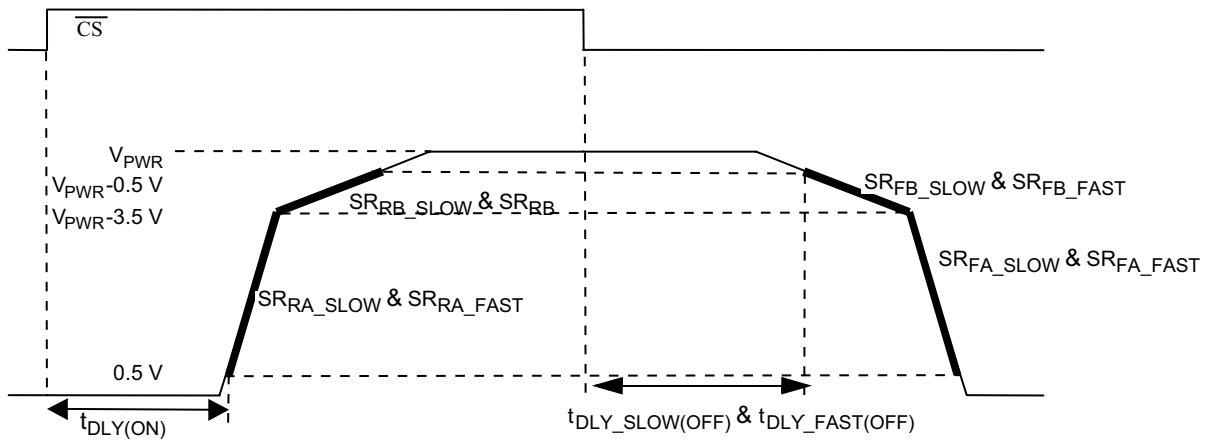

Figure 4. Output Slew Rate and Time Delays
19. Rise and Fall Slew Rates A measured across a 5.0 Ω resistive load at high-side output = 0.5 V to V_{PWR}-3.5 V (see Figure 4, page 13). These parameters are guaranteed by process monitoring.
20. Rise and Fall Slew Rates B measured across a 5.0 Ω resistive load at high-side output = 0.5 V to V_{PWR}-3.5 V (see Figure 4). These parameters are guaranteed by process monitoring.